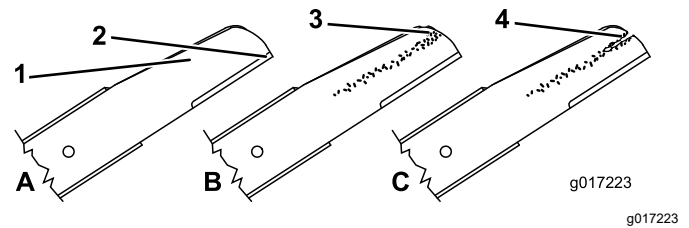

Figure 33
1. Inspect the cutting edges (Figure 33). If the edges are not sharp or have nicks, remove the blades and have them sharpened or replace them.
2. Inspect the blades themselves, especially the curved area (Figure 33). If you notice any damage, wear, or a slot forming in this area, immediately replace them with new blades.